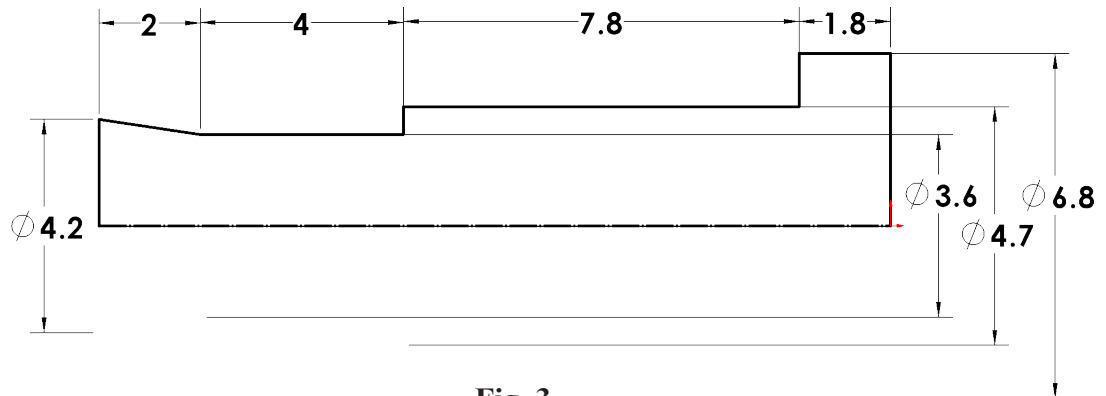

Fig. 3
Step 6. Add dimensions, **Fig. 3. Double distance the diameters.** To double distance dimension, click centerline and then top horizontal line, move the cursor below centerline (Origin) and click. Key-in the diameter in the Modify box and press ENTER.